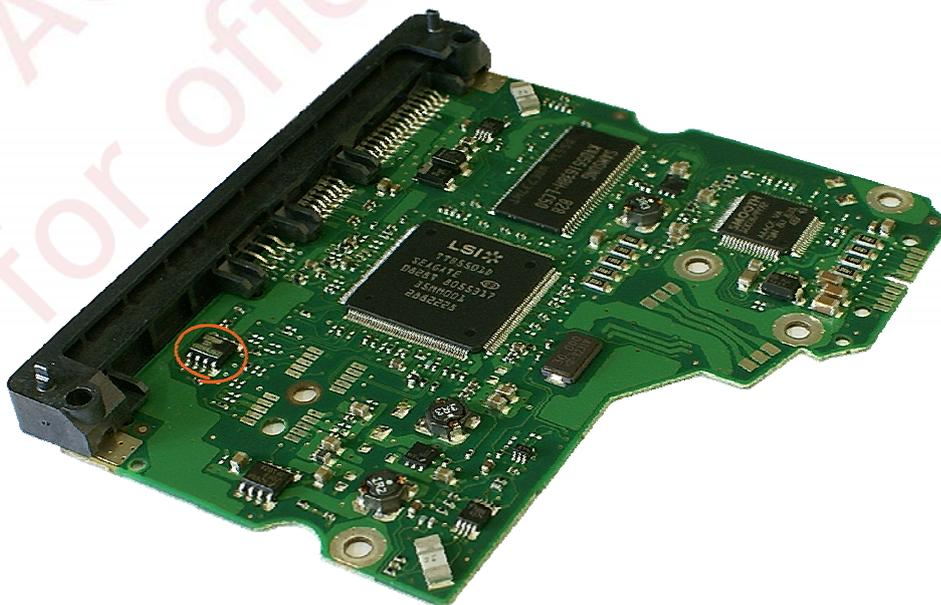

Fig. 19. ROM chip is indicated in the figure.
**ATTENTION!** ROM of the drives (ROM label is 25FW406A) contains adaptive information. Therefore, during replacement of the controller board you have to move the ROM data from the damaged board to the donor one (resolder the ROM chip from the damaged board to the borrowed one). Please see Figure 19.